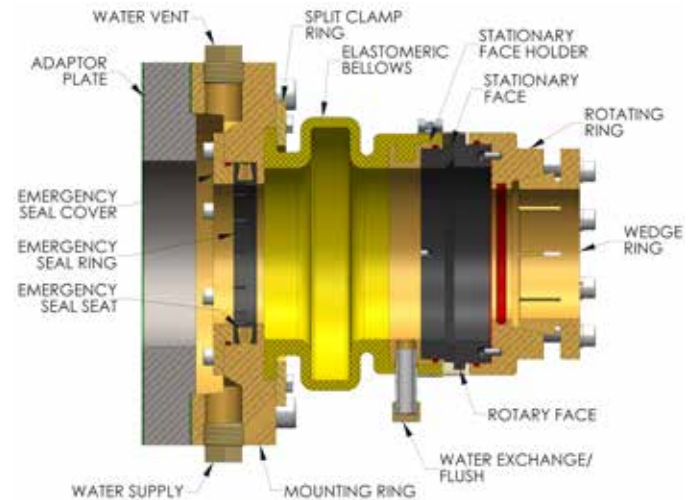

Figure 2: TG100 Seal Components and Water Ports
*Note: Check the package and observe any transport damage. Remove the seal from the crate and ensure all components are present, before installation. See Figure 2 for identification of seal components and water ports.*